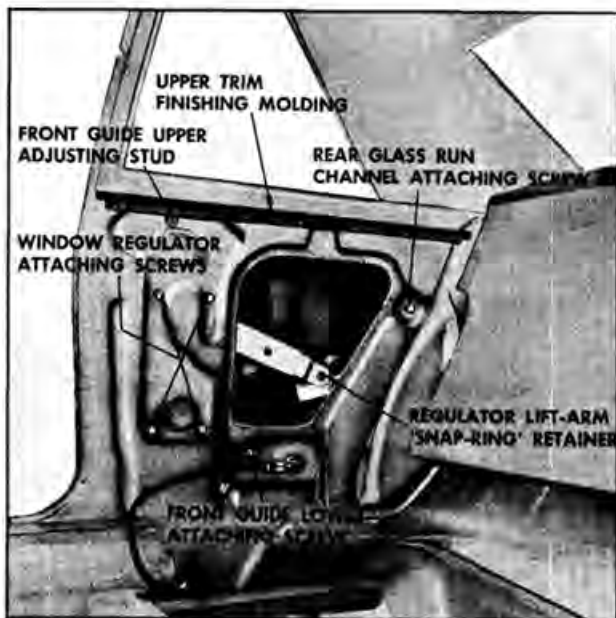

Fig. 16-361 Rear Quarter Hardware (27 Style)
3. With window in half-down position, remove snap ring retainer securing regulator lift arm to pivot pin on window lower sash channel. (Fig. 16-361)
2. Remove window guide upper adjusting stud and lower attaching screws (Fig. 16-361) and remove guide assembly.
4. Remove regulator attaching screws (Fig. 16-361) and remove regulator through access hole.
2. With window in full up position, remove guide assembly upper adjusting stud and lower attaching screw. (Fig. 16-361) Disengage guide assembly from nylon guide on lower sash channel and remove guide assembly.
2. Remove rear glass run channel attaching screw. (Fig. 16-361)
- a. Operate window to full up position and loosen window regulator attaching screws. (Fig. 16-361)
- a. Loosen rear glass run channel attaching screw. (Fig. 16-361)